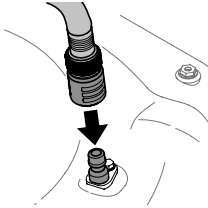

Figure 24
3. Attach garden hose with the deck wash nozzle to the water port on your deck's surface (Figure 24).